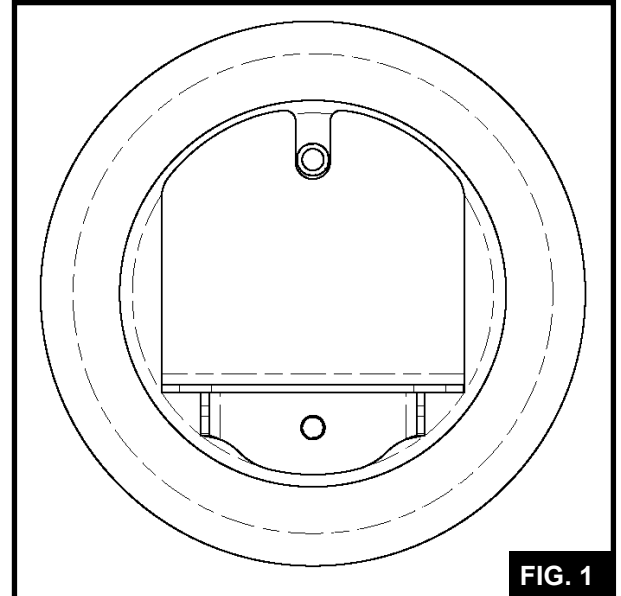

FIG. 1
**5.2** Place an air spring into the air spring hanger. Line up the air spring studs with the openings on the air hanger (See FIG. 1).